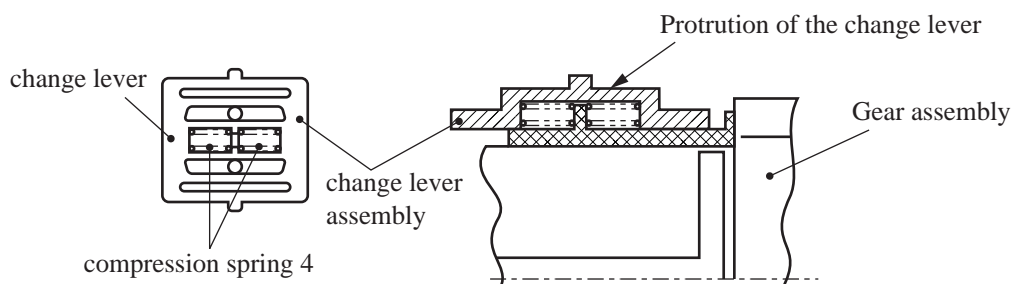

Fig. 4
2) Assemble the speed change lever assembly on the protrusion of the change lever as shown on the figure 4 while using care that the compression spring 4 may not jump over.